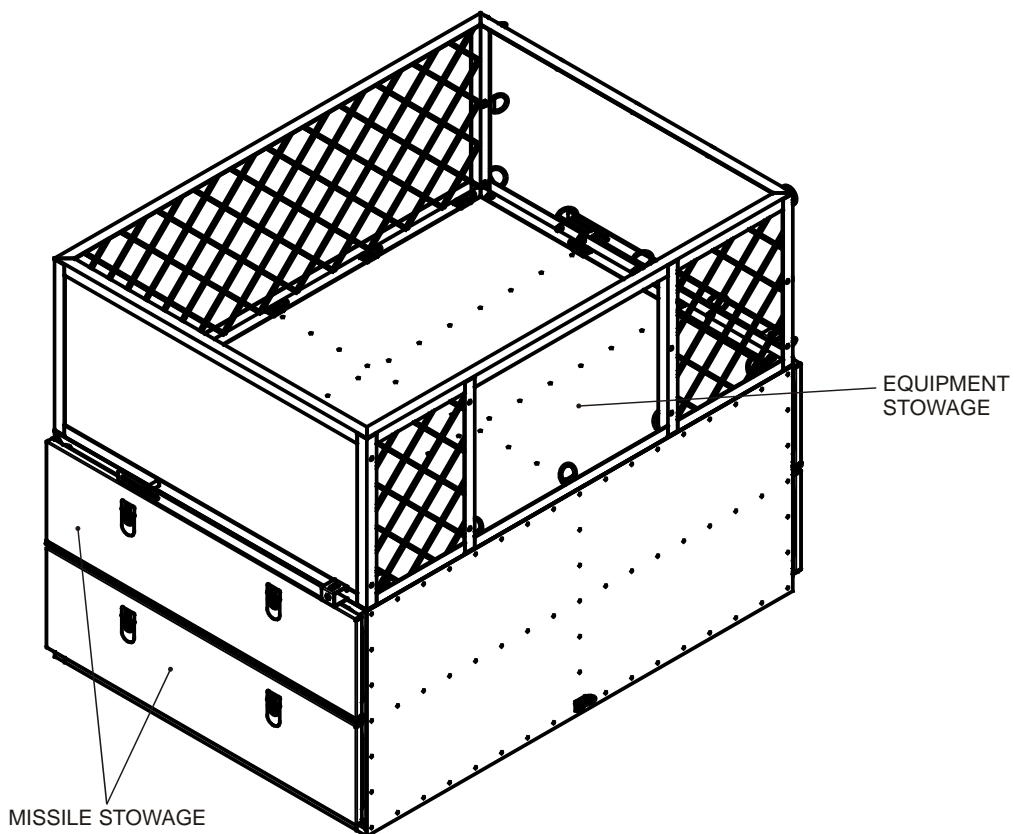

Figure 4 RBS 70 Missile Module and Equipment Stowage
4. The missile module is configured to carry up to eight missiles in two compartments of four, accessed from each side of the vehicle. Mounted above the missile module is a general stowage area (Figure 4).